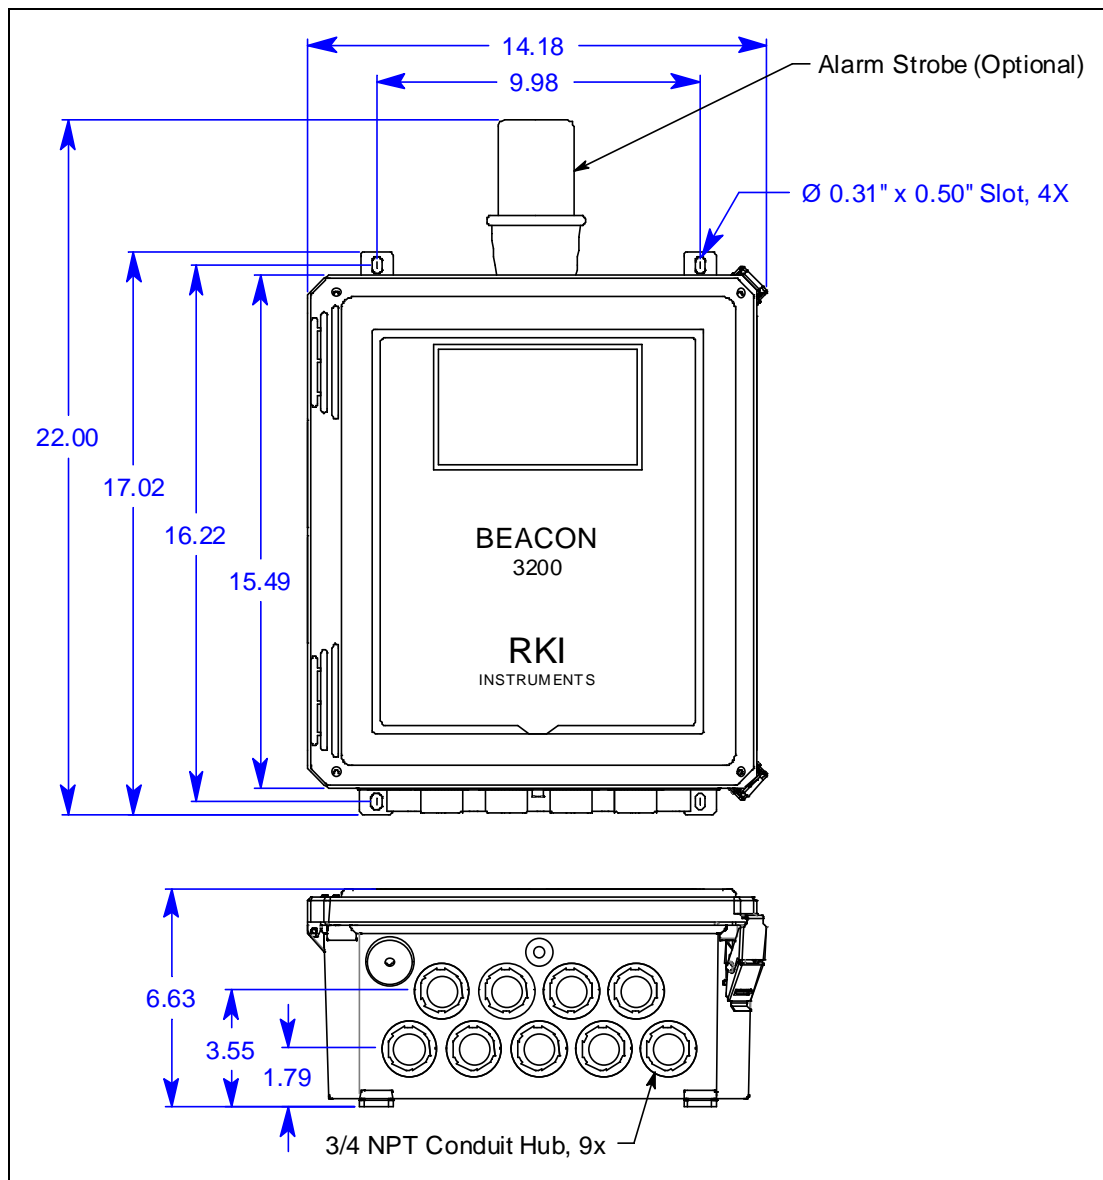

Figure 7: Outline and Mounting Dimensions with 51-0170 Series Alarm Strobe Installed
3. Prepare the selected mounting site as required to mount the Beacon 3200. It should be mounted at eye level (4 1/2 to 5 feet from the floor). Refer to Figure 7 for the outline and mounting dimensions.